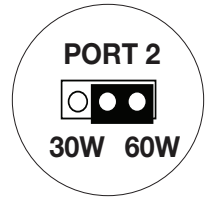

Fig. 2
- Port Configurations (*Fig. 2, pg. 4; Fig. 5a, pg. 9*):